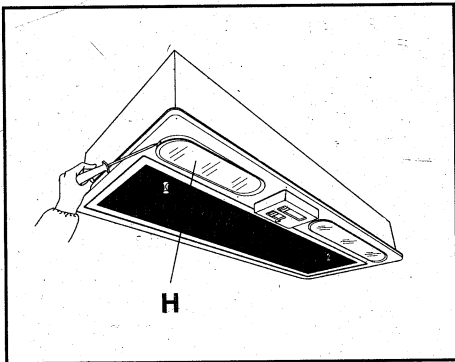

Fig. 6
- Remove the lamp covers **H** by means of a screw driver (Fig. 6).